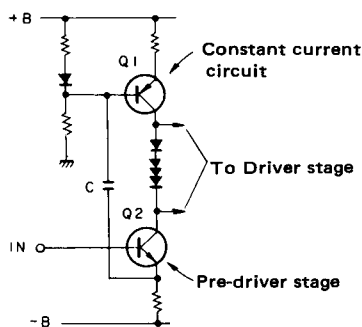

Fig. 7-1 Pre-driver stage
Although the incorporation of the tone control circuits in the power amplifier stage reduces the number of elements that the signal has to pass through, and thereby further reduces noise, distortion, and cost, the power stage does require a higher gain and a higher degree of stability. In the SA-610, this high gain and high stability are achieved by a current mirror load differential amplifier in the first stage and by the use of a constant current circuit for the load of the pre-driver stage. Furthermore, the tendency for the pre-driver stage capacitance impedance load to cause deterioration in the high end frequency response is suppressed by inserting a capacitor (C) between the emitter of the pre-driver stage (Q2) and the base of the constant current circuit (Q1) as shown in Fig. 7-1. At frequencies where the reactance of this capacitor may be ignored, the push-pull action of Q1 and Q2 serves to counteract the high end frequency response deterioration.